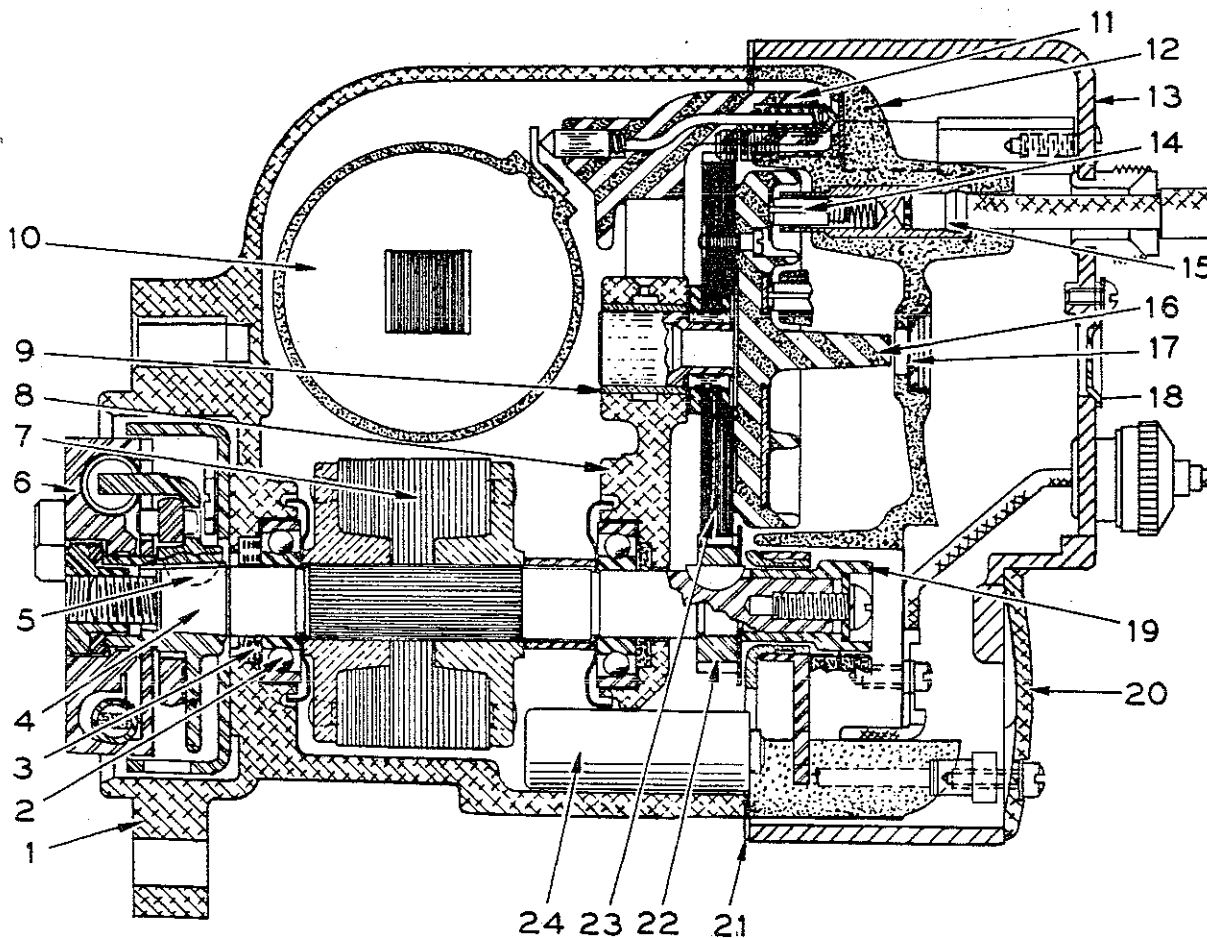

Fig. 4. Longitudinal Section through Magneto
The Bosch magneto (see Figs. 4 and 5) employs the induction principle of current generation. The coil windings (10) are stationary and the magnets (7) are rotated between laminated pole shoes (25). The condenser
(24) and interrupter (27) are also stationary. Brush (14) and the rotating track combinations are confined solely to the high-tension distributor (16). Screened ventilators on either side of the housing (1) and the fan action of the magnet rotor (7) insure constant change of air throughout the interior of the magneto. A single casting (1), the open end of which is covered by the distributor plate (12) and the radio shield cover (13), incloses the magneto. The observation cover (18) on the radio shield cover (13) and the observation window (17) in the distributor plate (12), plus the arrow on the distributor motor (16), facilitate timing of the magneto to the engine.